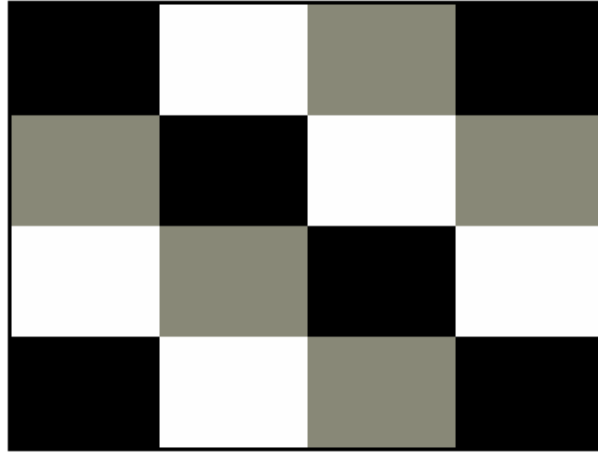

Figure 5-2. Version & Calibration data.
2. Press  **CALIBRATE**. The display will show a dark test pattern, see Figure 5-2